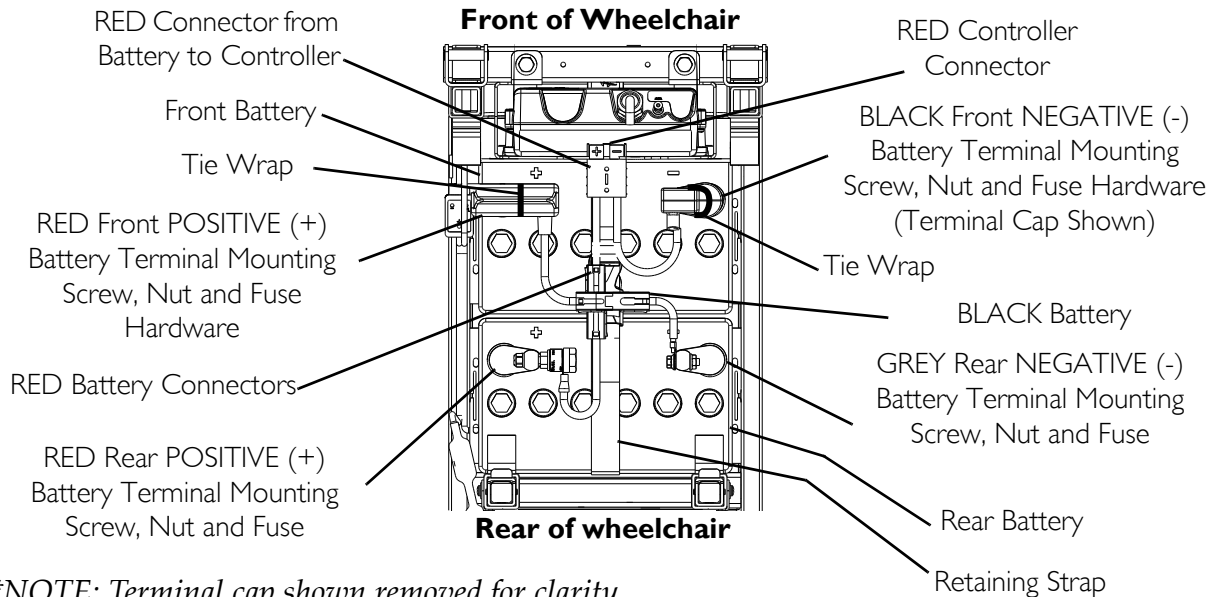

FIGURE 2 - installing/removing the batteries
NOTE: For this procedure, refer to FIGURE 1 and FIGURE 2.
11. Connect the front battery to the controller (RED connector). Refer to FIGURE 2.
12. Connect the rear battery to the front battery (RED and BLACK connectors). Refer to FIGURE 2.
14. Perform one (1) of the following:
3. Perform one (1) of the following:
6. Disconnect the front battery from controller (RED connector). Refer to FIGURE 2.
8. Disconnect the rear battery from the front battery (RED and BLACK connectors). Refer to FIGURE 2.